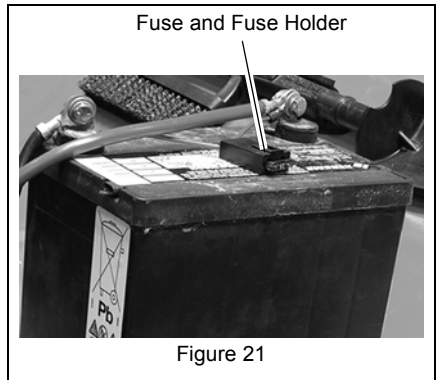

Figure 21
2. Locate the fuse holder on the wiring harness and remove the fuse (Figure 21).